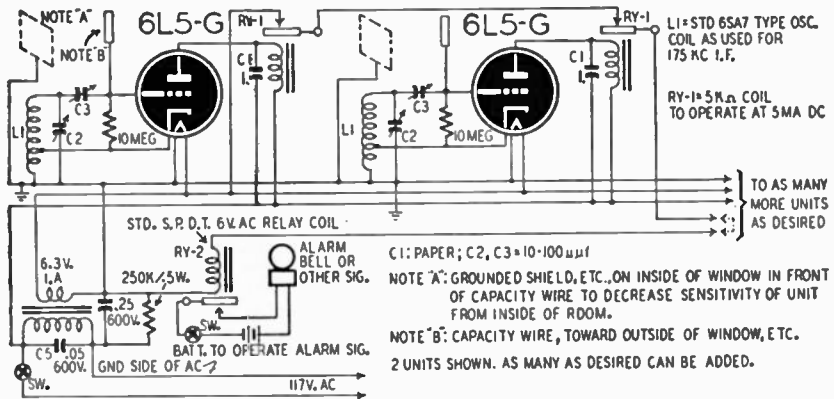

Fig. 702
A. A diagram of a capacity-operated relay is shown in Fig. 702. The tube and relay unit should be placed in a small grounded metal box